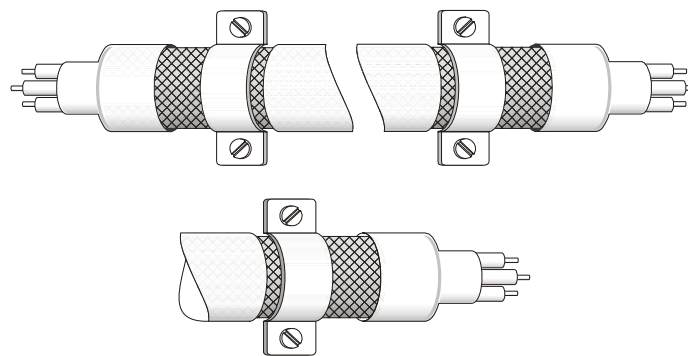

Figure 7-77
3. Correctly connect the copper braid shielded wire of the motor cable with the metal plate. Use two-hole straps to fix both ends of copper braid shielded wire of the motor cable on the metal plate. See Figure 7-77.